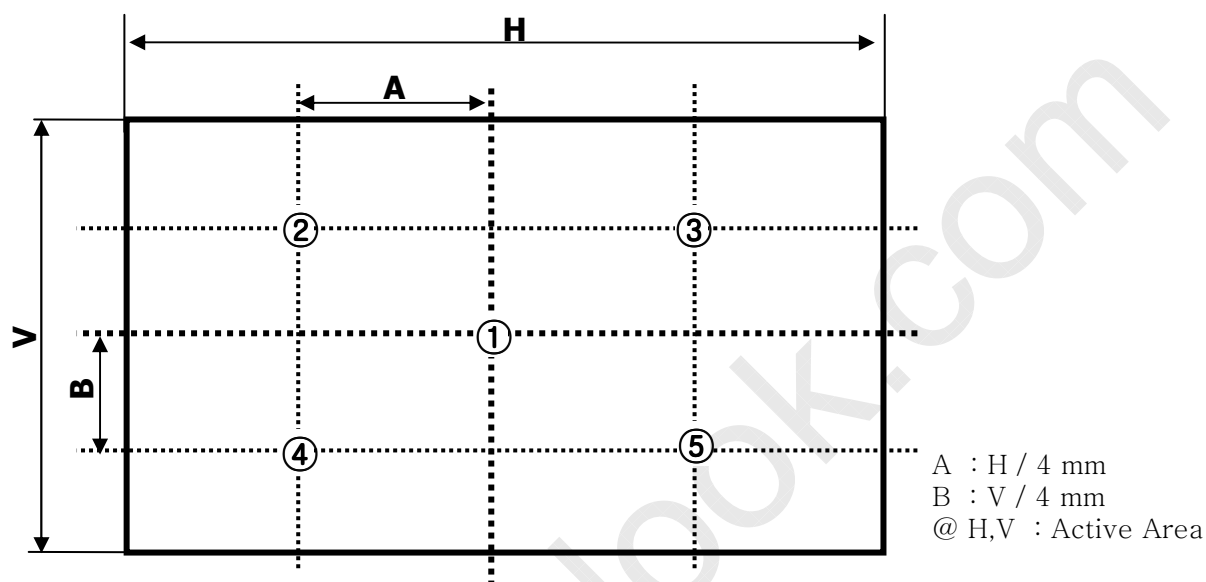

FIG. 2 Measure Point for Luminance
2. Surface luminance is determined after the unit has been 'ON' and 1Hour after lighting the backlight in a dark environment at $25 \pm 2^{\circ}\text{C}$. Surface luminance is the luminance value at center 1-point across the LCD surface 50cm from the surface with all pixels displaying white. For more information see the FIG. 2.
For more information, see the FIG. 2.